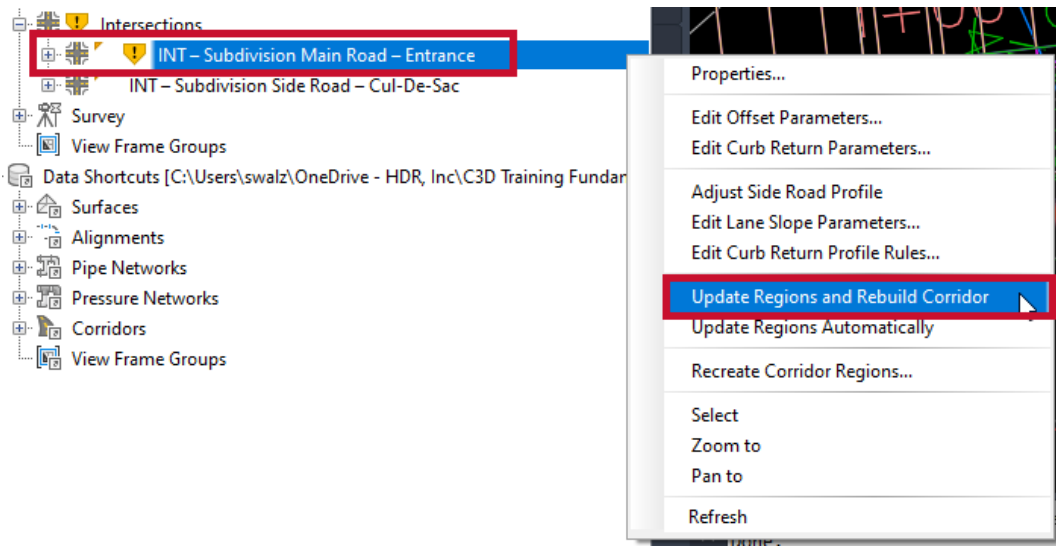

Figure 3.7 – Update Regions and Rebuild Corridor
7. If not already toggled off due to LOD or model health purposes, or just simply overlooked, we'll want to start by right-clicking on the **INT – Subdivision Main Road – Entrance** intersection model and select the **Update Regions and Rebuild Corridor** option (refer to *Figure 3.7*).